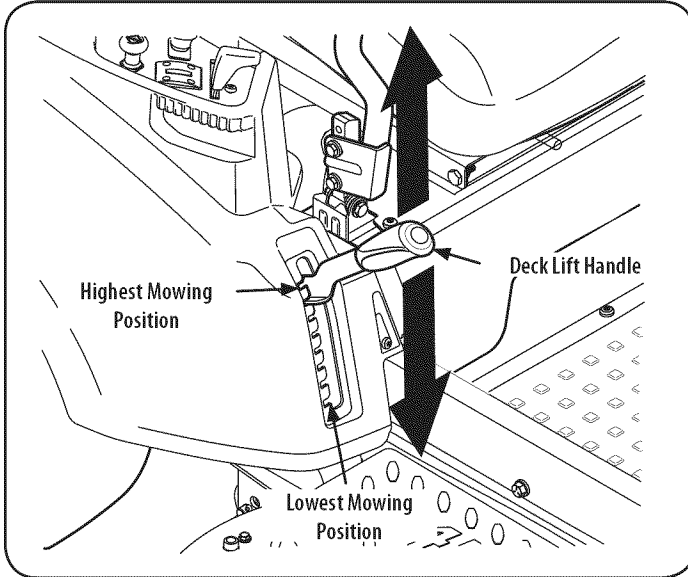

Figure 28
- a. Using the deck lift handle, raise the deck to the position that provides the most horizontal run of the belt between the deck idler pulleys and the PTO pulley on the bottom of the engine. See Figure 28.
6. Lower the deck into the lowest position using the deck lift handle. See Figure 28.
1. Place the deck lift handle in the highest mowing position See Figure 28.